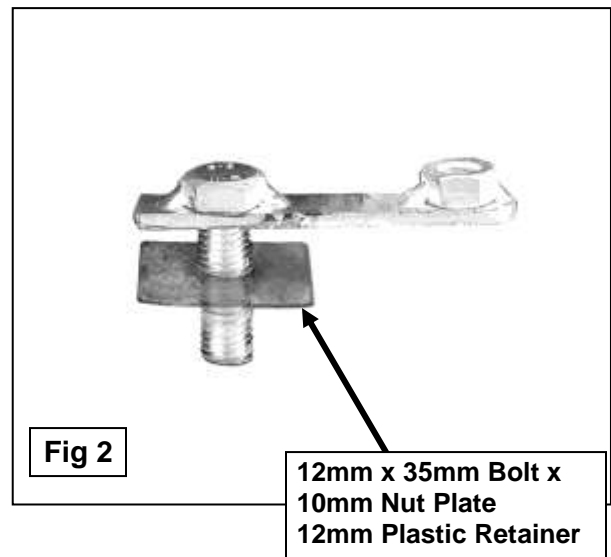

Fig 2
- Starting at the driver side-front of the vehicle, remove the sealing tape covering the factory holes on the side of the inner panel, **(Figure 1)**. Partially thread (1) 12mm Plastic Retainer onto the threaded end of (1) 12mm Bolt and Nut Plate, **(Figure 2)**. Insert the Bolt and Nut Plate into the factory oval hole. Continue to thread the Plastic Retainer down the Bolt and Nut Plate until it is flush against the sheet metal, **(Figure 3)**. **NOTE:** When properly installed, the Plastic Retainer is designed to prevent the Bolt and Nut Plate from falling into the body cavity during installation.